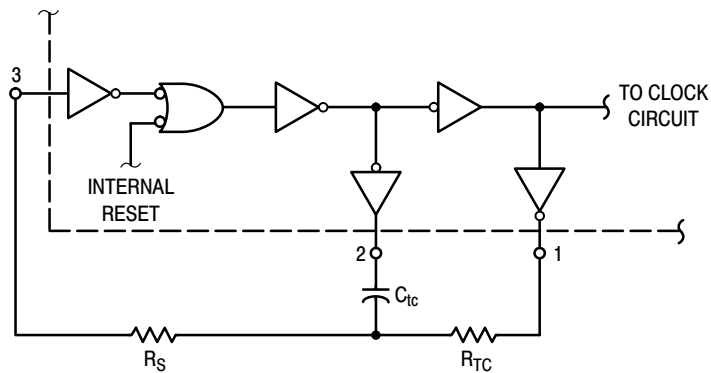

Figure 3. Oscillator Circuit Using RC Configuration
4. When using the on chip oscillator the total supply current (in µAdc) becomes: I_T = I_D + 2 C_{tc} V_{DD} f × 10⁻³ where I_D is in µA, C_{tc} is in pF, V_{DD} in Volts DC, and f in kHz. (see Fig. 3) Dissipation during power-on with automatic reset enabled is typically 50 µA @ V_{DD} = 10 Vdc.
The RC oscillator as shown in Figure 3 will oscillate with a frequency determined by the external RC network i.e.,